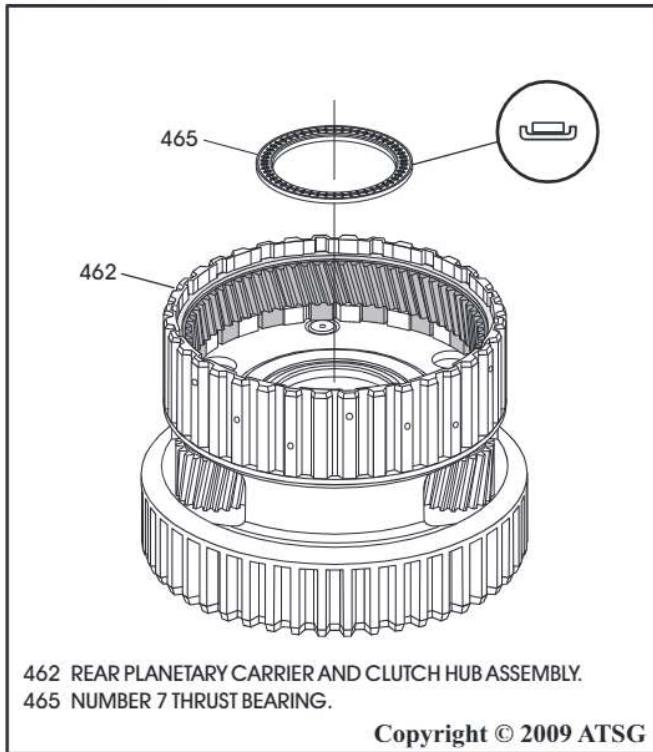

Figure 141
41. Install the number 7 thrust bearing, as shown in Figure 141, by hand pressing into place.